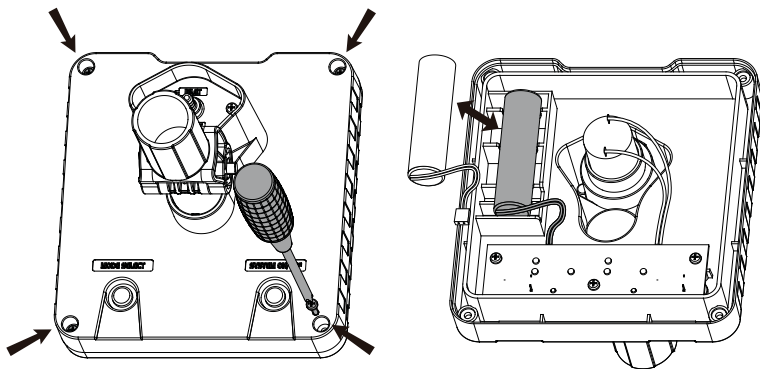

Figure 11
4) If the system always stop working after a few cloudy days in a row, and the battery is out of its service life, replace the battery with a new one (Referring to **Figure 11**).